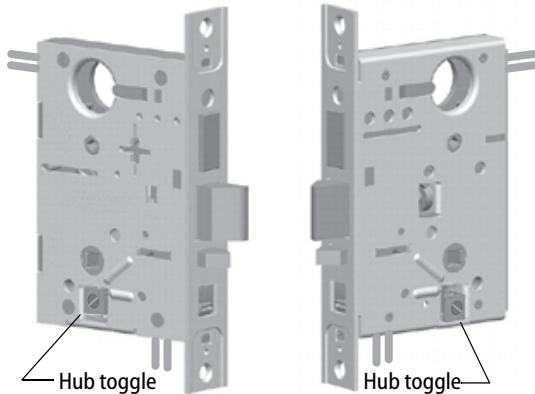

Figure 9 Positioning hub toggles
- 1 Check whether the hub toggles are in the proper position for the lock. See the table below and Figure 9.